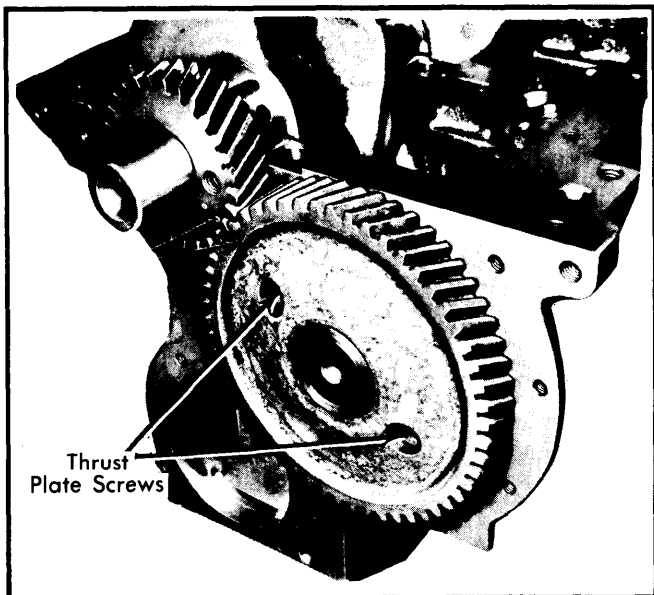

Fig. 10 View Showing Location of Camshaft Thrust Plate Screws
2) Remove coil, side cover and all valve lifters. Remove front engine cover as previously outlined. Rotate engine until timing marks on camshaft gear and crankshaft gear are aligned. Remove distributor, noting position of rotor. Remove two camshaft thrust plate screws and carefully pull camshaft out front of engine to remove. See Fig. 10.